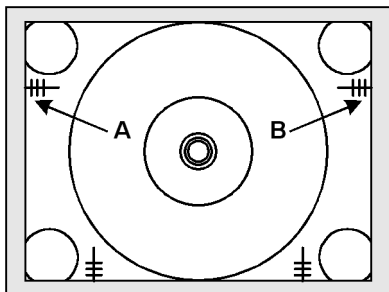

Figure 23. Horizontal Centering
1. In the Service Mode, select the Horizontal Centering Adjustment DAC (C9). Adjust it until locations “A” and “B” are even on both sides of screen, as indicated in Fig. 23.